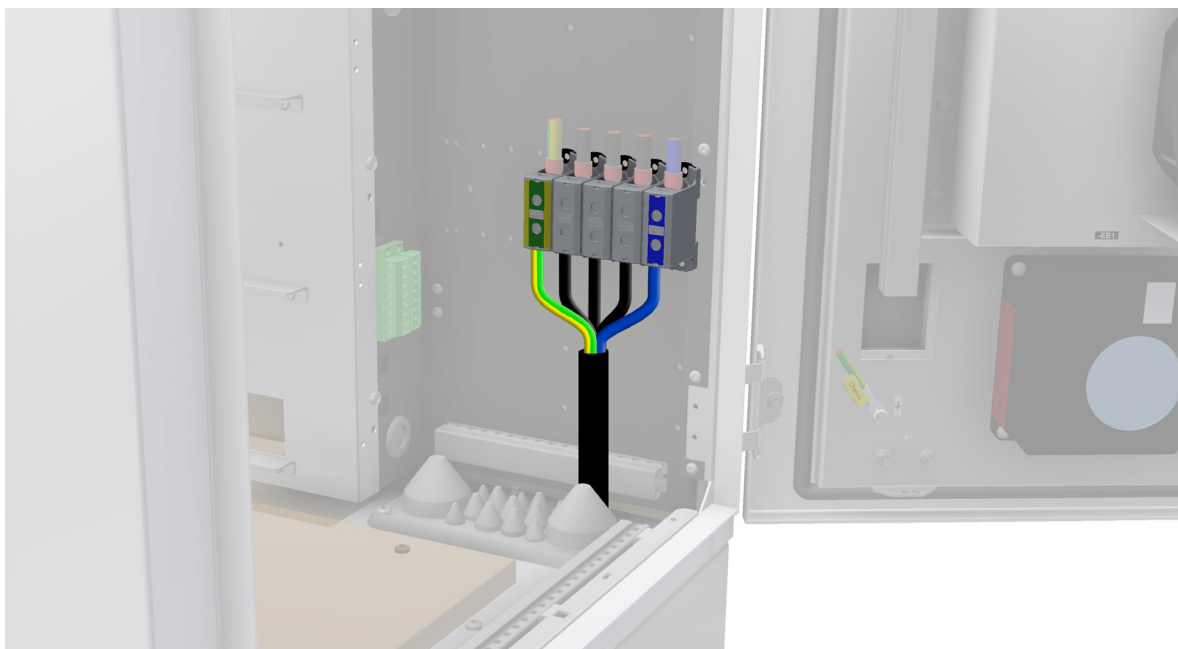

Figure 4.19 AC mains cable - TN-S / TT (230/400Vac) network
- Connect phase wires (L1, L2, L3) and neutral wire (N) to terminals X1 (see *Figure 4.19*). Use torque T2.